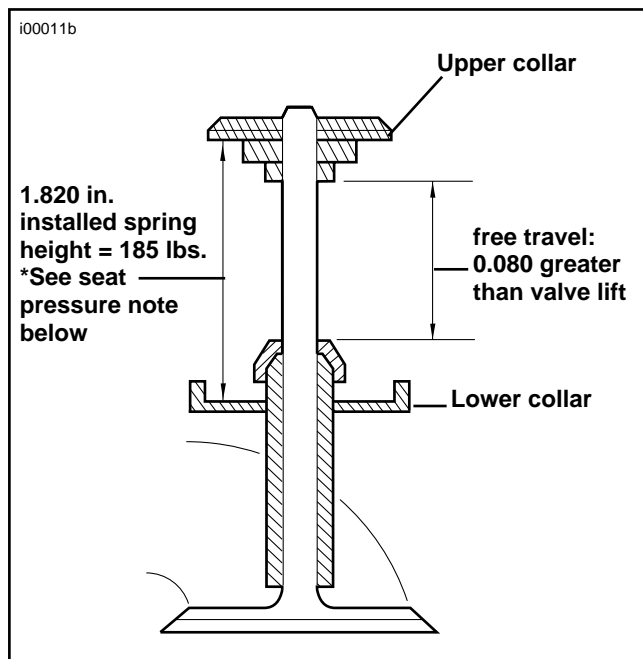

Figure 1. Check installed spring height
4. See Figure 1. Install lower valve spring collars, upper collars, and collar keys. Check installed spring height. Add shims (see note below) or remove material from spring seat to reach installed spring height. Remove upper collar keys and upper collars.